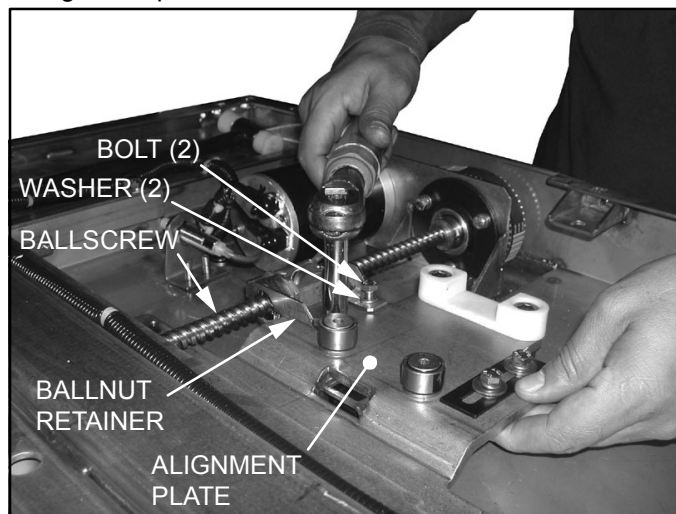

FIGURE 4-16: BALLNUT RETAINER
- g. Refer to **Figure 4-16**. Remove and retain two bolts and two washers that attach the ballnut retainer to the traveling frame alignment plate.
e. Refer to **Figure 4-16**. Install two bolts and two washers that attach the ballnut retainer to the traveling frame alignment plate. Do not completely tighten.
- g. Refer to **Figure 4-16**. Remove and retain two bolts and two washers that attach the ballnut retainer to the travelling frame alignment plate.
- j. Refer to **Figure 4-16**. Install two bolts and two washers that attach the ballnut retainer to the traveling frame alignment plate. Do not completely tighten.
- g. Refer to **Figure 4-16**. Remove and retain two bolts and two washers that attach the ballnut retainer to the travelling frame alignment plate. Retain ballnut bracket.
- f. Refer to **Figure 4-16**. Install two bolts and two washers that attach the ballnut retainer to the traveling frame alignment plate. Do not completely tighten.